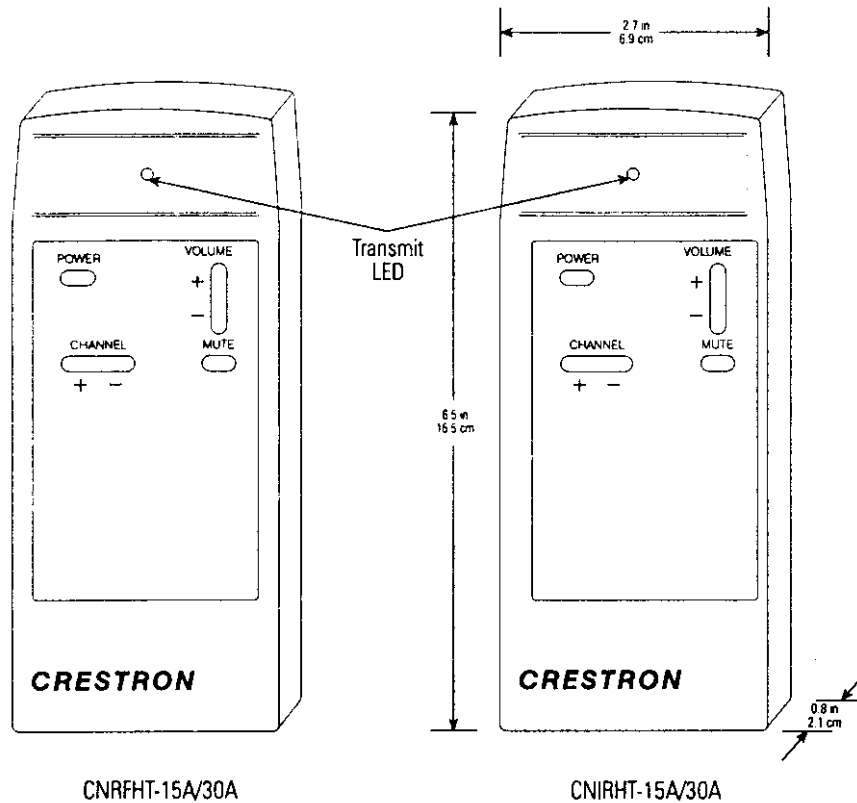

Figure 1. CRESTRON Hand-held Wireless Transmitters
The CNRFHT-15A/30A, illustrated in figure 1, is a hand-held RF transmitter. The unit is designed to operate with the CRESNET II remote control system (herein referred to as the CRESNET II system) via a RF wireless receiver, CNRFGWA Wireless Gateway. The hand-held transmitter is available with 15 or 30 button controls. Depression of any button on the customized 15- or 30-button panel initiates a RF signal transmission to the CNRFGWA.
The CNIRHT-15A/30A, illustrated in figure 1, is a hand-held infrared (IR) transmitter. The unit is designed to operate with the CRESNET II system via an IR wireless receiver, CNIRGWA Wireless Gateway. The hand-held